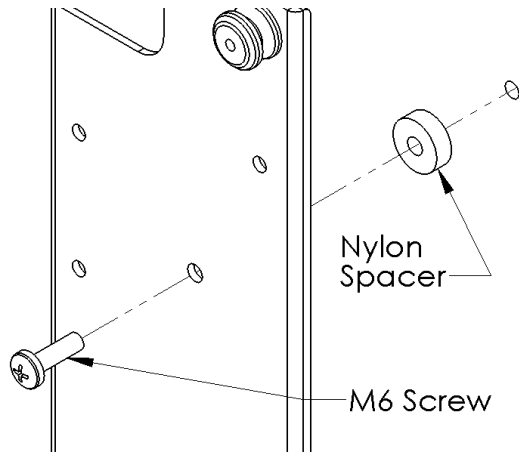
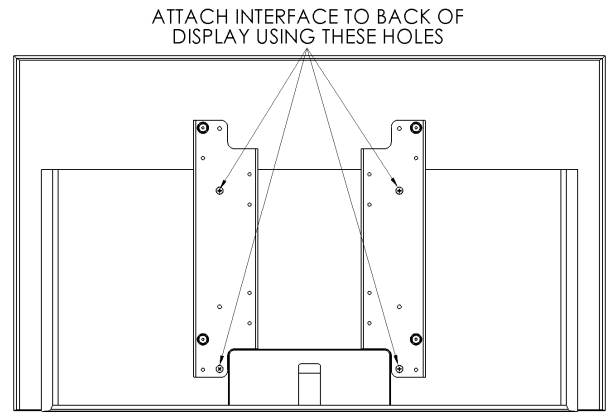

Figure 4
Figure 5
2. **Bracket Installation:** Place nylon spacers over mounting holes of screen and attach brackets to back of display using the M6 screws (see Figure 4 & Figure 5). Do not over tighten screws.